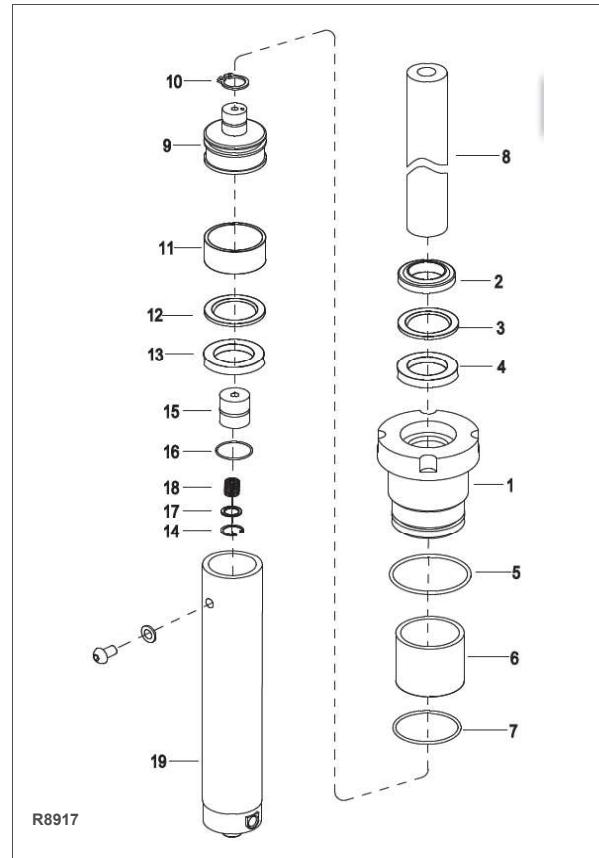

Figure 9-10 Free Lift Cylinder
2. Using spanner wrench, remove gland nut (1, Figure 9-10) from cylinder tube (14).
3. Remove dust ring (2), retainer ring (3), seal (4), bushing (6), O-ring (5) and O-ring (7) from gland nut (1).
4. Pull out the piston rod (8) from the cylinder tube (19).
5. Remove the piston (9) from the piston rod (8).
6. Remove the bushing (11), retaining ring (12) and seal (13) from the piston rod(9).
7. Remove the snap ring (14) then remove the valve seat (15).
8. Remove the retaining ring (17) and remove the spring (18).
3. Remove dust ring (2), O-ring (3 and bushing (4), from gland nut (1).
4. Pull out the piston rod (5) from the cylinder tube (14).
5. Remove the bushing (6) and the piston (8) from the piston rod (5).
6. Remove the O-ring (7), bushing (9), retaining ring (10) and seal (11) from the piston.
7. Remove the O-ring (12) and bushing (13) from the piston (8).